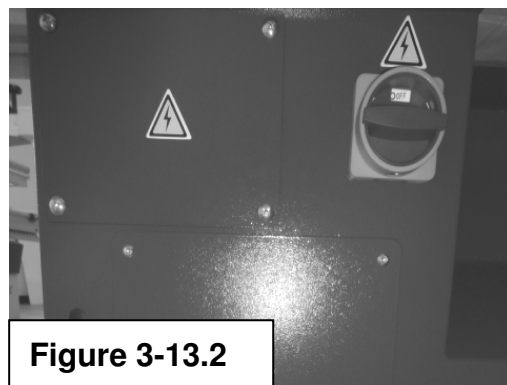

Figure 3-13.2
1. Turn the main switch ON. (Fig.3.13.2)